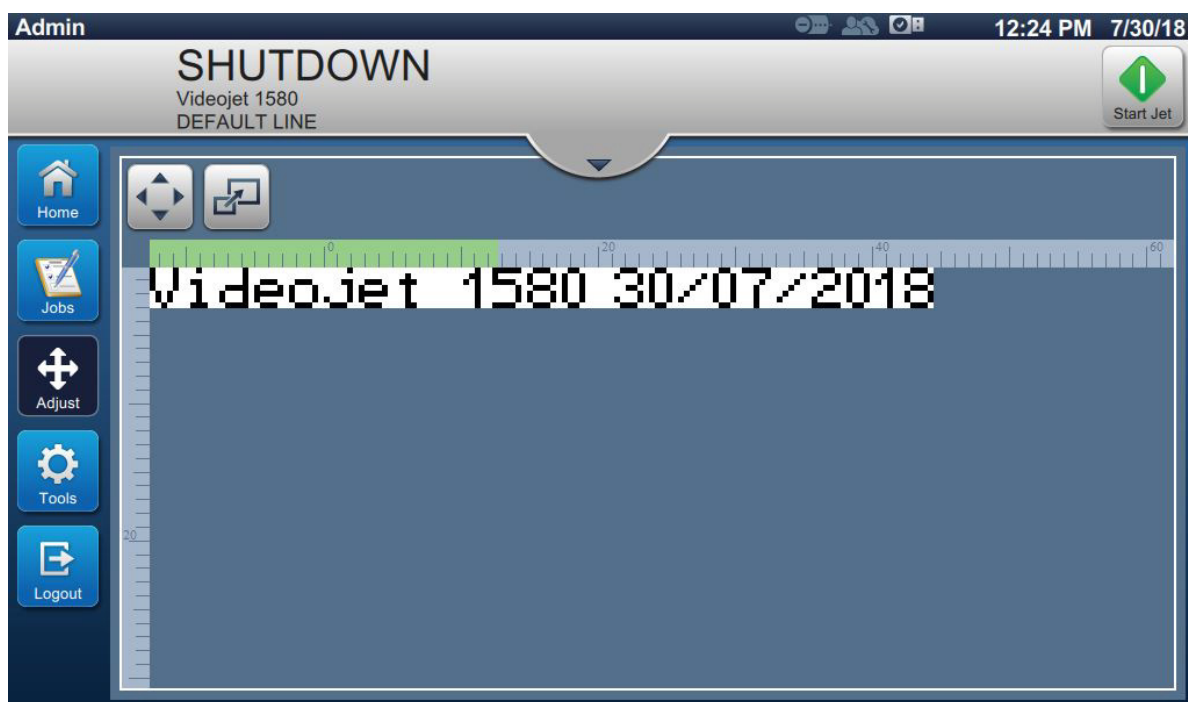

Figure 4-8: Adjust Window
1. Touch the  button on the Home screen. The screen opens as shown in Figure 4-8.